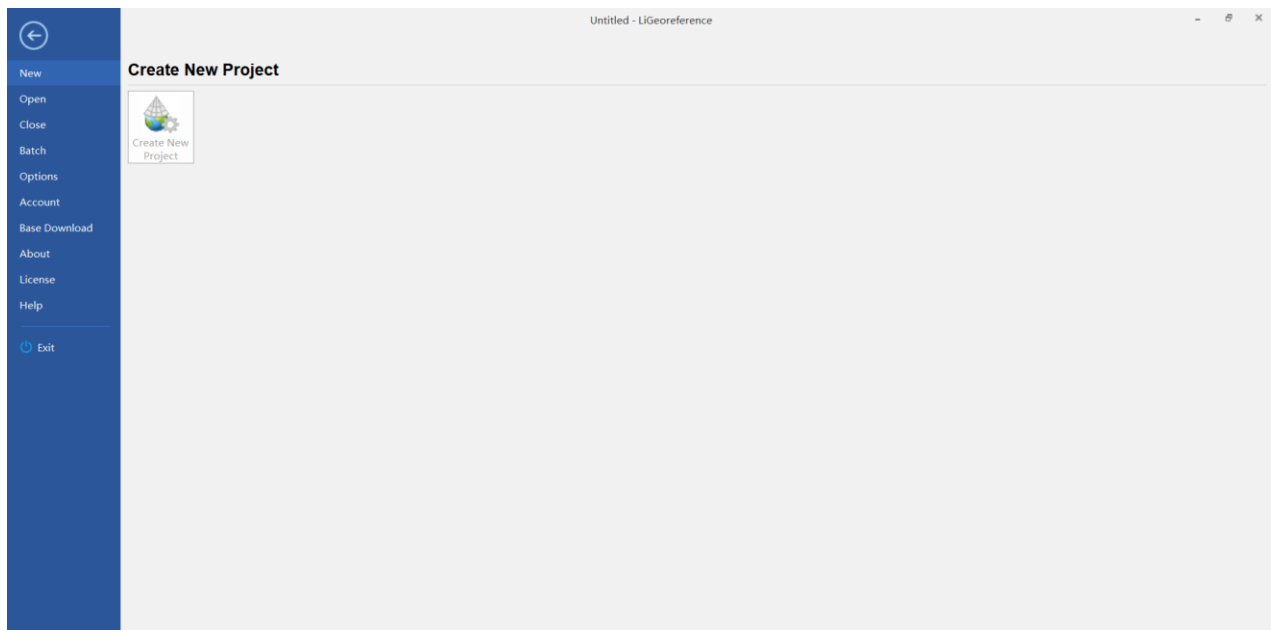

Figure 13. Open Project Interface
- Click “**File**” icon on the toolbar to open *LiGeoreference project file (.live)* through “**Browse**” icon, and users can also open the project file via “**Recent Projects**” icon which refers to history project opened before. And both of these two user-friendly selections are available for users to start project (as shown in Figure 13)